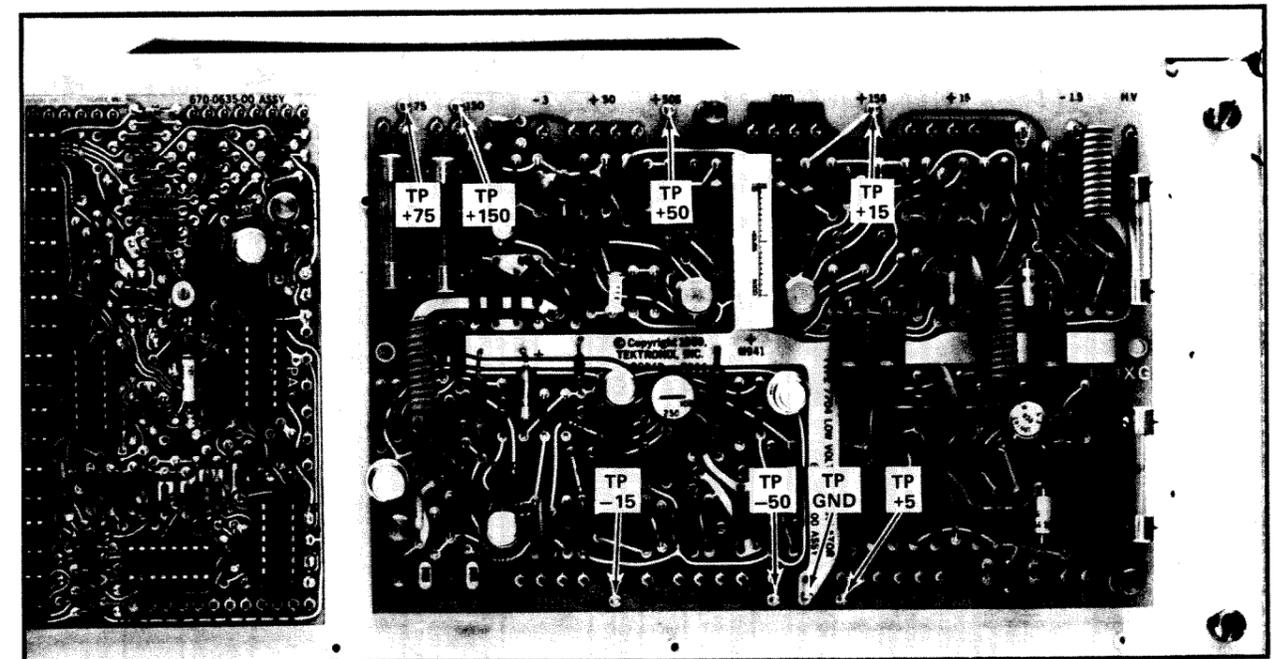

Fig. 4-4. Location of power-supply test points on Low-Voltage Regulator board.
Incorrect operation of all circuits often indicates trouble in the power supply. Check first for correct voltage of the individual supplies. However, a defective component elsewhere in the instrument can appear as a power-supply trouble and may also affect the operation of other circuits. Table 4-3 lists the tolerances of the power supplies in this instrument. These voltages are measured between the power-supply test points (on Low-Voltage Regulator board) to the ground test point on this board. See Fig. 4-4 for power supply test point location. If a power-supply voltage is within the listed tolerance, the supply can be assumed to be working correctly. If outside the tolerance, the supply may be misadjusted or operating incorrectly. Use the procedure given in the Calibration section to adjust the power supplies.
2.3 Set the POWER switch to ON. Then, measure the output of each supply between the designated test point (see Fig. 4-4) and the ground test point with the voltmeter. Tolerance for each supply is given in Table 4-3.